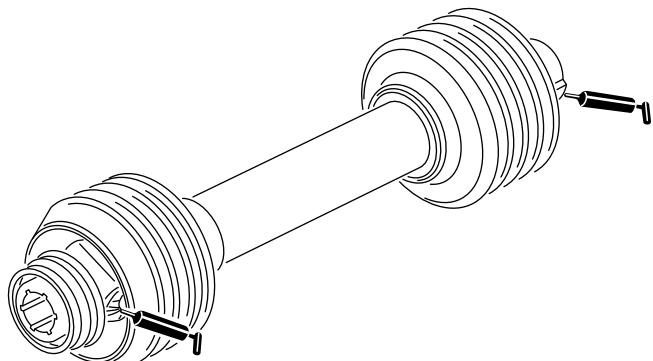

Figure 11
2. Grease the fittings on the fan shaft bearings as illustrated in Figure 11 with No. 2 lithium-based grease.
Grease the 2 drive shaft fittings as illustrated in Figure 11 with No. 2 lithium-based grease.